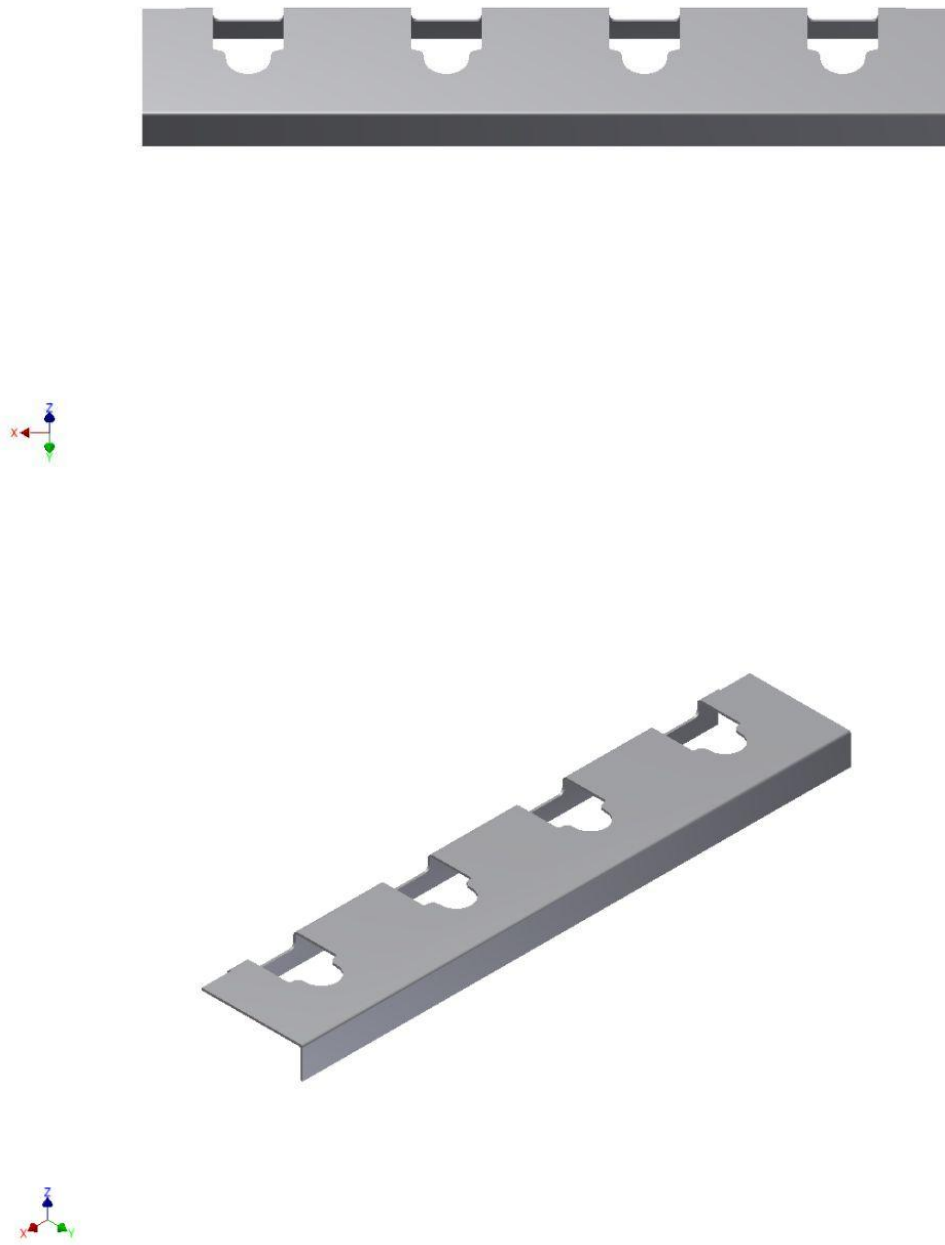

Figure 3: Example Module Base Plate
5. The modules should be placed on a plate with cut out hole for where the feed end adaptor may fit into. A example of such a plate is shown in Figure 3. It is recommended to have at least one strap and one saddle to hold the modules to the support structure.